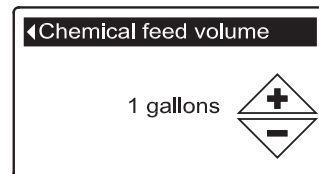

FIG. 141
7. Press the SELECT (O) button to display the Chemical feed volume or Chemical feed timer menu (See Figures 141 & 142).